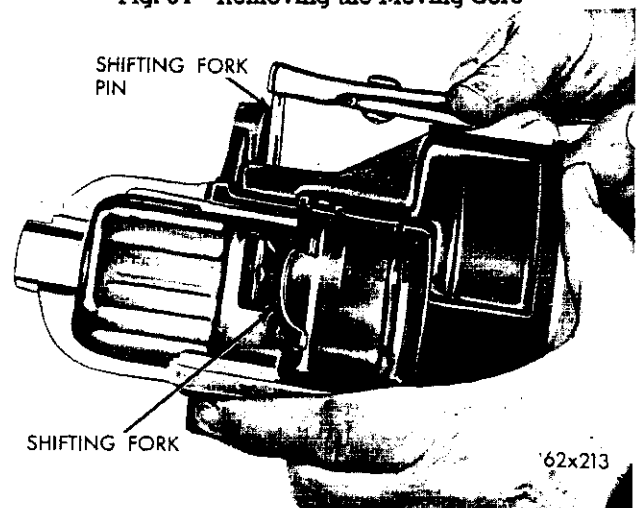

Fig. 35—Removing the Shifting Fork Pin
(24) Remove the shifting fork retainer pin (Fig. 35) and remove the clutch shifting fork assembly.
(1) Position the shifter fork in the drive housing and install the shifting fork retainer pin (Fig. 35). One tip of pin should be straight, the other tip should be bent at a 15 degree angle away from the housing. Fork and retainer pin should operate freely after bending the tip of pin.